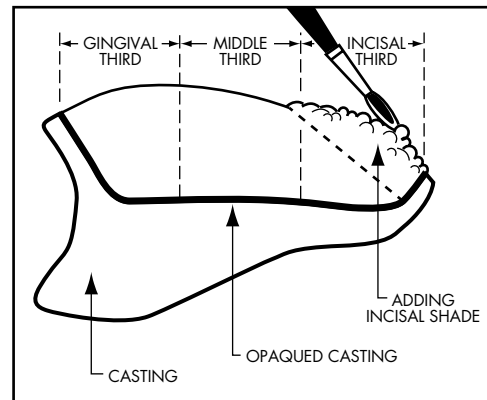

Figure 2
- Depress incisal and moisten a brush with liquid. Pick up a bead of incisal powder and add to body shade as shown (See Fig. 2). Blend incisal shade back over body shade, blending out to approximately the incisal third.